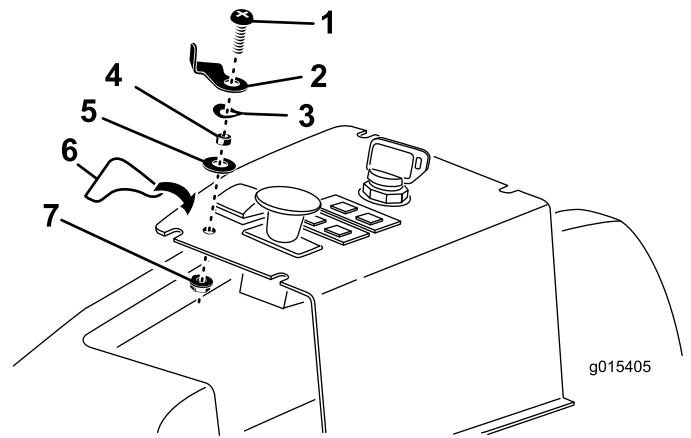

Figure 14
3. Insert the lift-lock lever, spacer, wave washer, and flat washer onto the 1/4 x 1 inch pan-head screw positioning as shown in Figure 14.
4. Insert the lift-lock lever assembly screw into the control-panel hole and secure it with a locknut. Position the lift-lock lever as shown in Figure 14.
5. Affix the lift-lock lever decal to the control panel as shown in Figure 14.